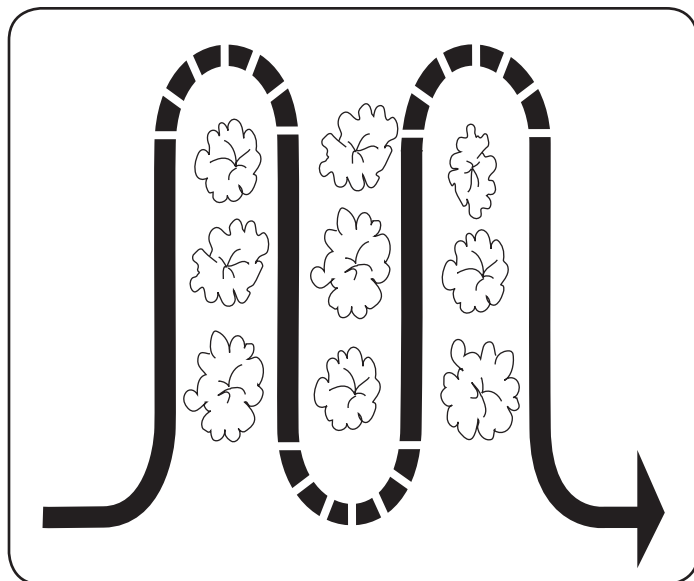

Figure 17
- When cultivating (breaking up the surface soil around the plants to destroy weeds, See Figure 17), try to have the tines only dig 1" to 2" deep. Using the shallow tilling depth helps prevent injury to the plants whose roots often grow close to the surface. If needed, lift up on the handlebars slightly to prevent the tines from digging too deeply. (Cultivating on a regular basis not only eliminates weeds, it also loosens and aerates the soil for better moisture absorption and faster plant growth.) Watering the garden area a few days prior to tilling will make tilling easier, as will letting the newly worked soil set for a day or two before making a final, deep tilling pass.